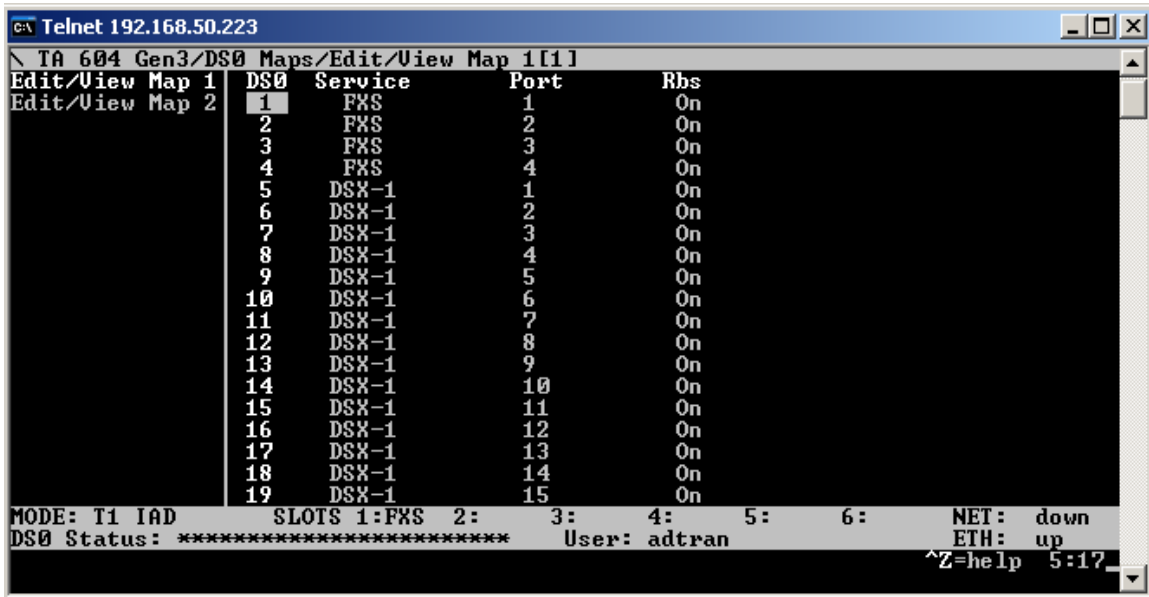

Figure 6
2. Select Edit/View Map1 to map the T1 channels assigned to the FXS to the ports connected to the Castelle FaxPress. (Note: In this example we are using an ADTRAN Total Access 604, providing 4-analog FXS ports connection to the 4-Port Castelle FaxPress. If Castelle FaxPress is equipped with an 8-Port fax board, the ADTRAN Total Access 608 will be required.) See Figure 6
3. Map some or all of the remaining channels on the Network T1 to the T1/DSX-1 port connecting the PBX. See Figure 6.